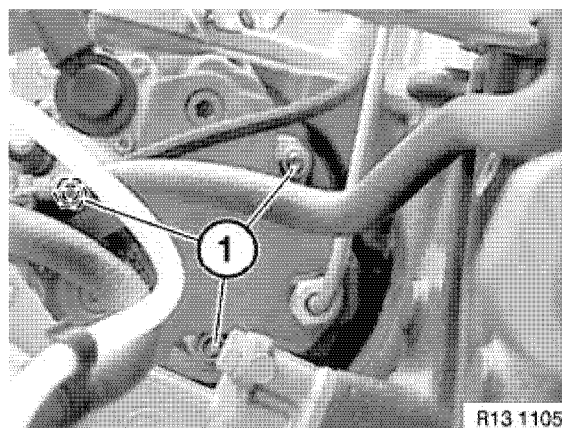

Figure 6-31
3. Install high-pressure fuel pump and install three nuts (1, **Figure 6-31**).